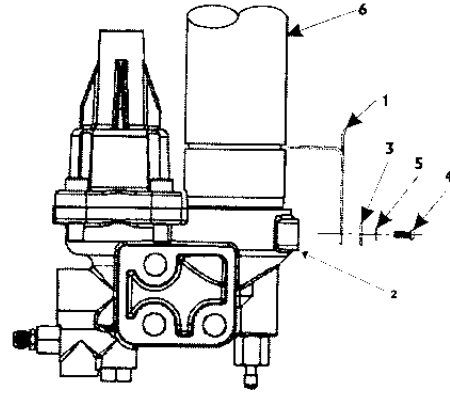

Figure 6-3
The reservoir clip has fingers that fit into a groove at the lower end of the grease cartridge housing. When the retainer is tightened, the housing is pulled into the pump head. Before installing the Reservoir Retainer, ensure that the Grease Cartridge Housing (28, Figure 10-1) and gasket (27, Figure 10-1) are correctly in place. Install grease cartridge (Section 7.2) before final adjustment of the spring clip (1, Figure 6-3).
1. Install the spring clip (1) on the side of the pump head (2) with plate (3), cap screws (4) and lock washers (5) as shown in Figure 6-3.
2. With Grease Housing (6) installed and tightened as required, adjust the fingers of the spring clip (1) so that they firmly retain the housing.
3. Tighten two cap screws (4).